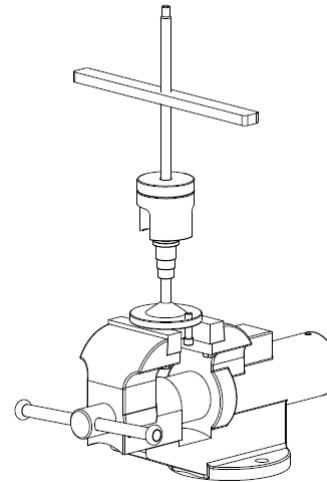

Figure 17
- Using a vice, mount the disassembly tool as shown in figure 17.